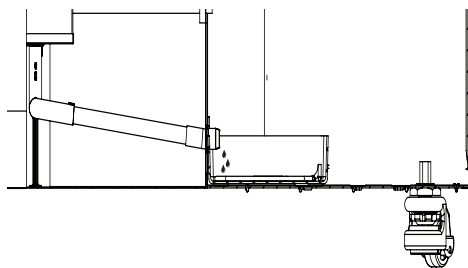

fig.17
3. Place a tray under the condensation water drain. If the appliance has an auto-drainage system, no need for tray. See fig. 17
When ordering spare parts, please state the type, serial and product numbers of your appliance. This information is given on the rating plate (fig. 17). The rating plate contains various technical information, including type and serial numbers.